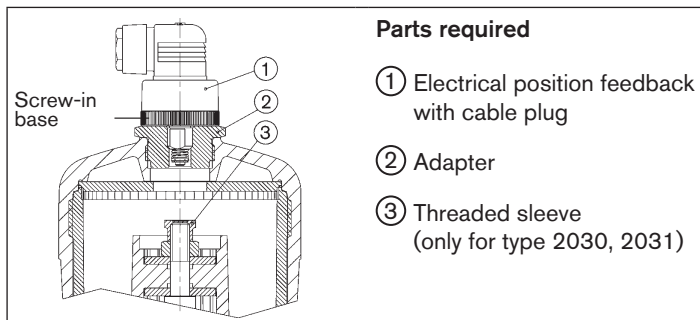

Fig. 11: Actuator size 100, 125 (Ø in mm) with electrical position feedback
- **Type 2030, 2031:** Screw threaded sleeve ③ onto actuator spindle (size 14).
- Screw adapter ② instead of transparent cap onto actuator (see "Fig. 11").
- Screw electrical position feedback ① into adapter ② (see "Fig. 11") following the note in Chapter "10", page 19.